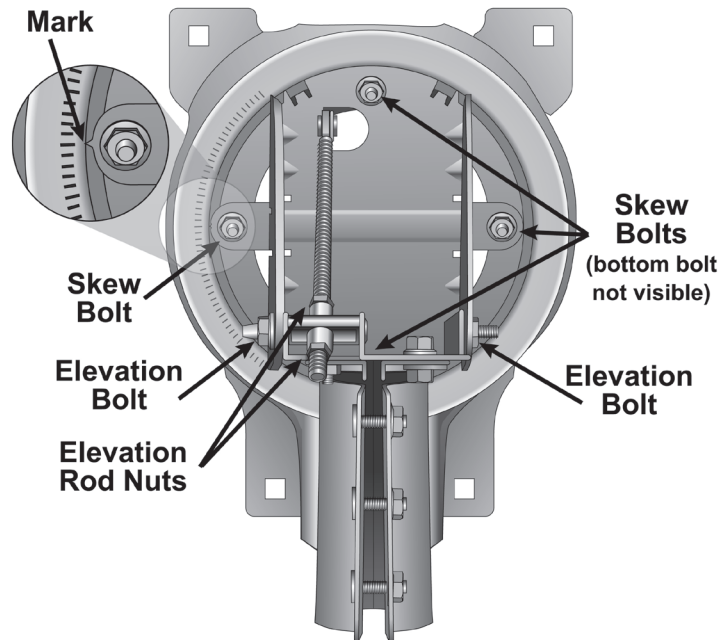

Figure 2. Skew Plate
- 6. Set skew.** To access the skew bolts, loosen the elevation bolts and elevation rod nuts. Loosen the skew bolts. Set the skew by rotating the elevation and skew bracket to align the mark with the required angle on the skew scale that you entered on page 4 (see Figure 2). Tighten the skew bolts securely to keep the reflector from rotating. See Table 1 on page 9 for the required torque values.